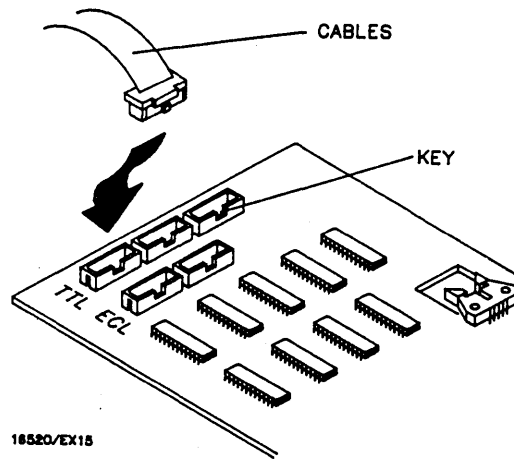

Figure 6-19. Card Connectors
- g. Remove cable(s) from card connector(s) and install new cable(s). See figure 6-19.